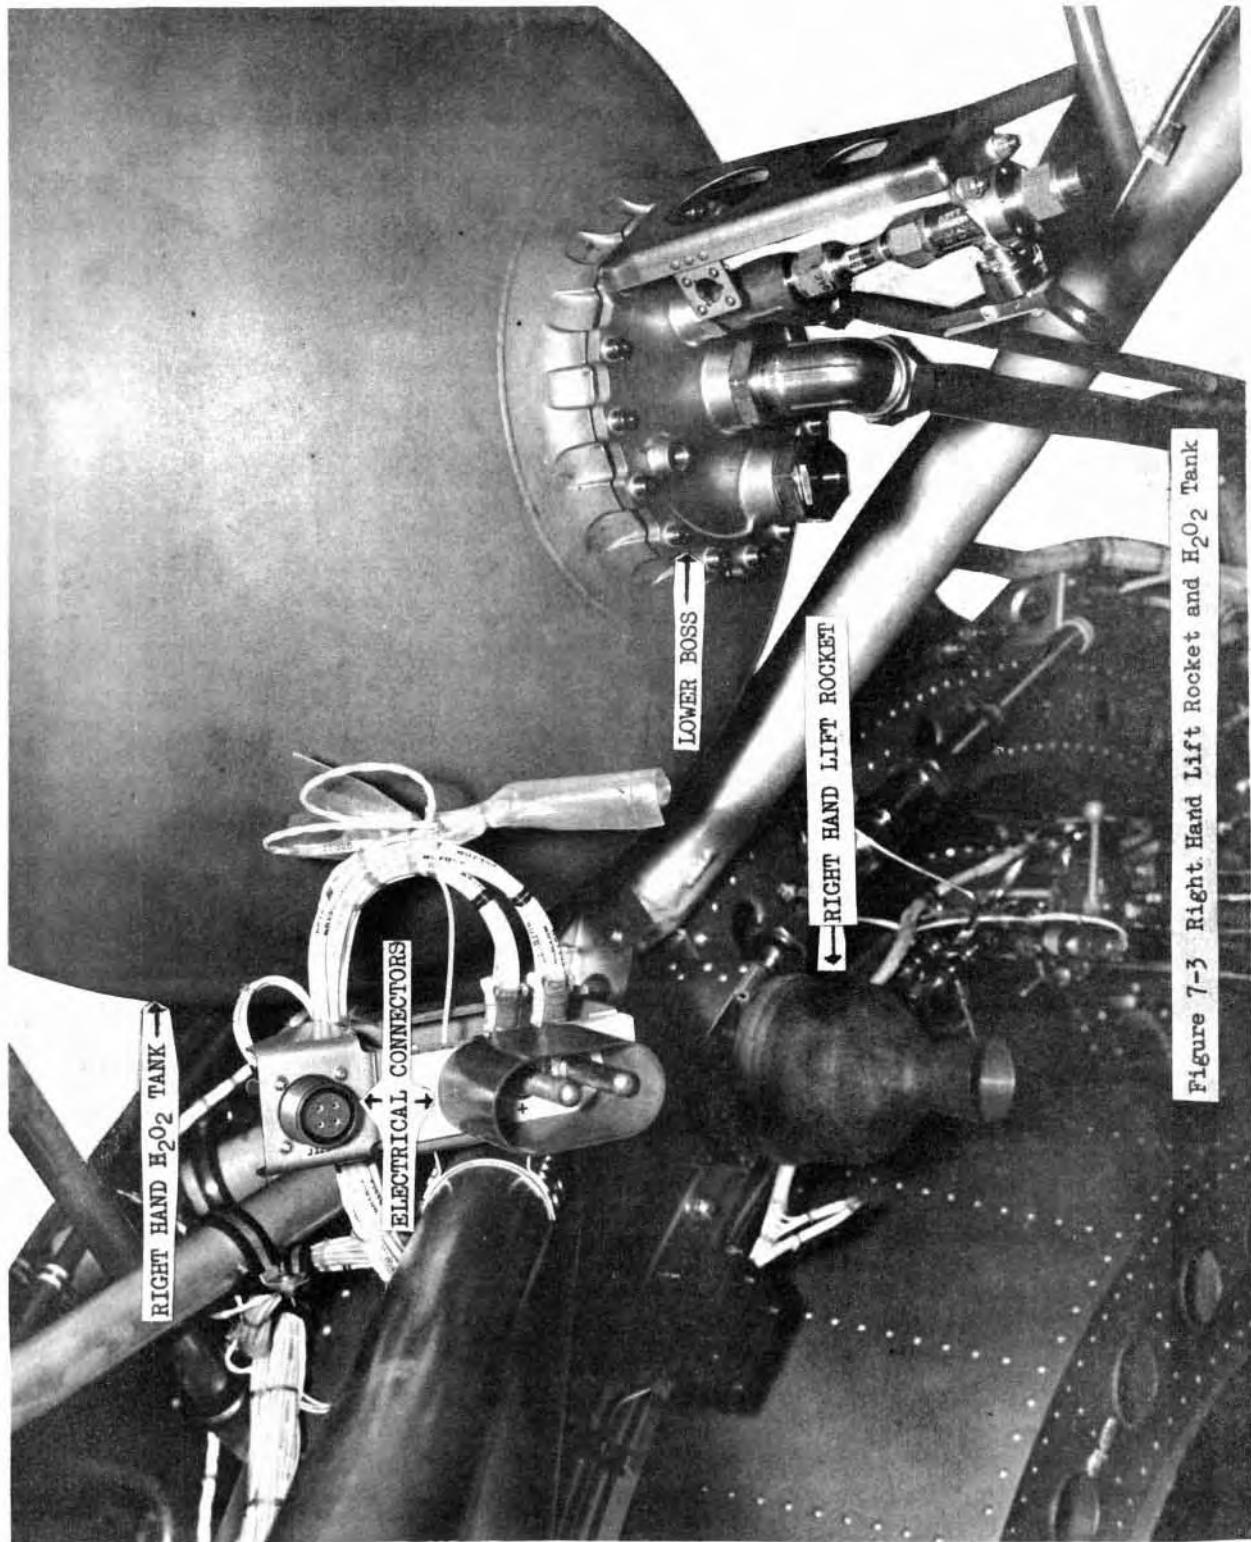

Figure 7-3 Right Hand Lift Rocket and H₂O₂ Tank
7-22 H₂O₂ Tank - (Right tank, attitude starboard, outboard, figure 7-3).
- E. Install and torque fittings on piping to upper and lower tanks bosses (figure 7-3).
7-24 LIFT ROCKET (figure 7-3) See Bell drawing 7260-460003).
E. Connect electrical harness to LLTV main harness (figure 7-3).